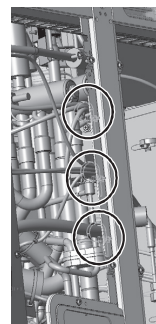

Figure 6
- (7) Cut the two cable ties holding the weak electrical wiring inside the main control box in place, and loosen the four cable straps holding the weak and strong electrical wirings. (See Figure 6.)
- (8) Cut the two cable ties holding the rubber bush at the bottom of the main control box. (See Figure 6.)
- (5) Remove the three cable straps from the center pillar. (See Figure 6.)